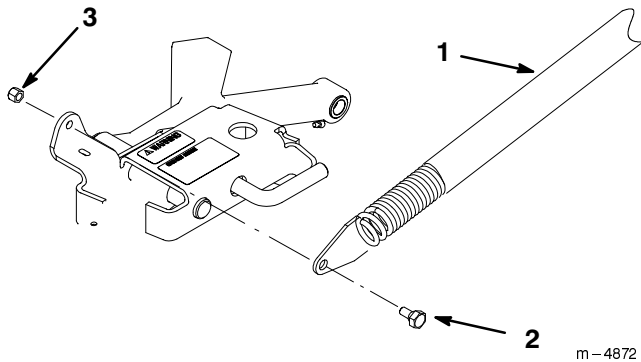

Figure 33
6. Secure spring end plate assembly to carrier frame with shoulder bolt (3/8 in. x 7/8 in.) and locknut (3/8 in.) (Fig. 33).